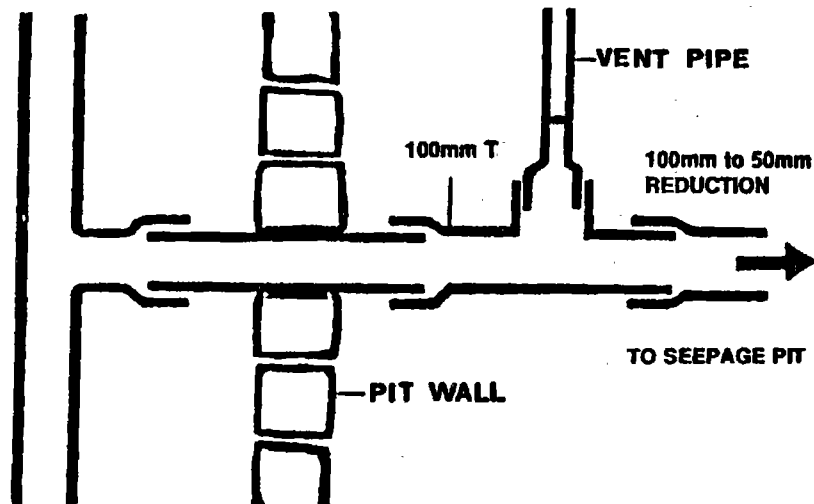

Figure 2. Septic tank pipework
- *The tank should be waterproof. Render the inside with cement mortar. Add "T" junction pipes to the inlet, outlet and compartment connector pipes, as shown in Figure 2. These are to protect against scum blocking the pipework or being carried over into the seepage pit.*